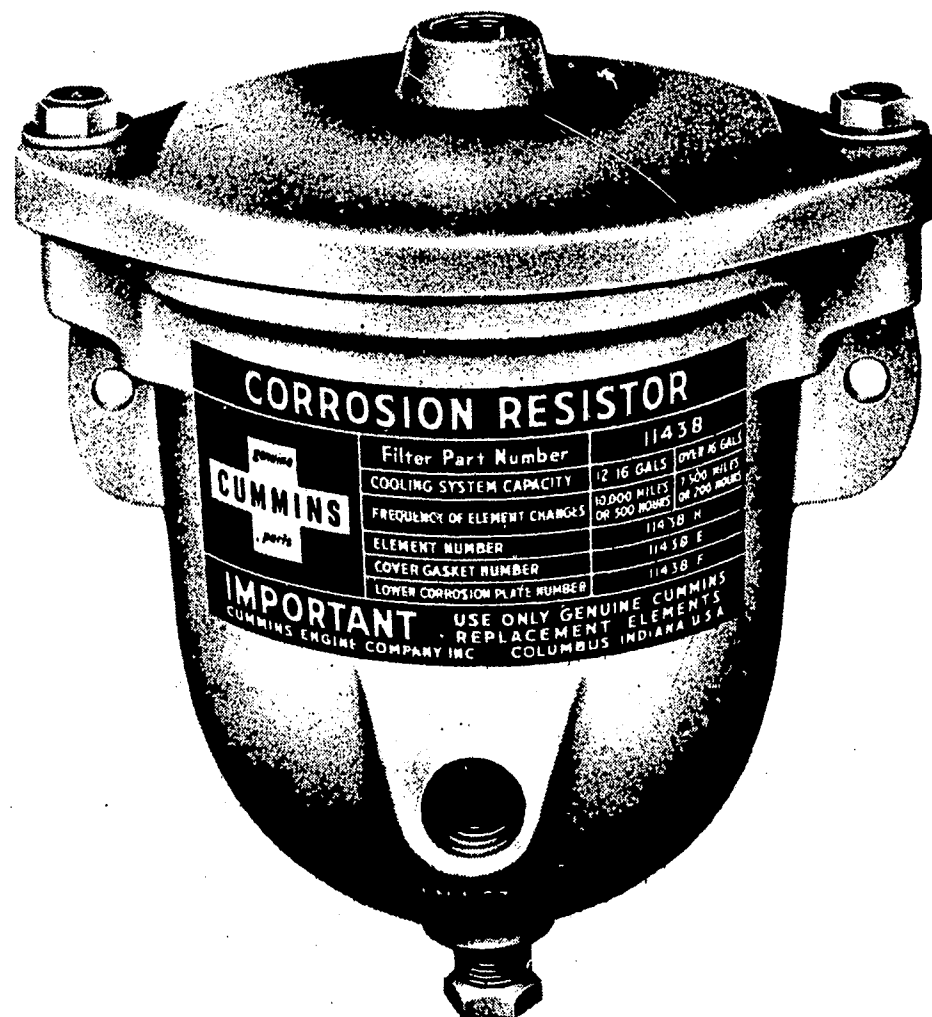

Fig. 8 Cummins corrosion resistor.
**WATER FILTER AND CONDITIONER** - The water conditioner, sometimes called a "corrosion resistor" is a unit through which coolant is directed for treatment. Figure 8 shows the corrosion resistor used on the Cummins Engines.